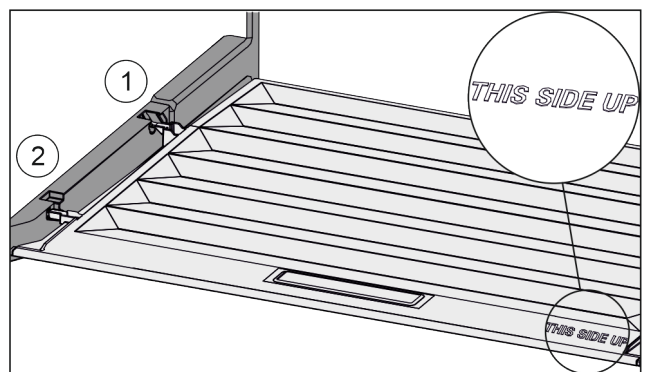

Fig. 39
- ▶ Insert the lip of the cover over the opening of the rear bracket Fig. 39 (1) and click into place Fig. 39 (2).